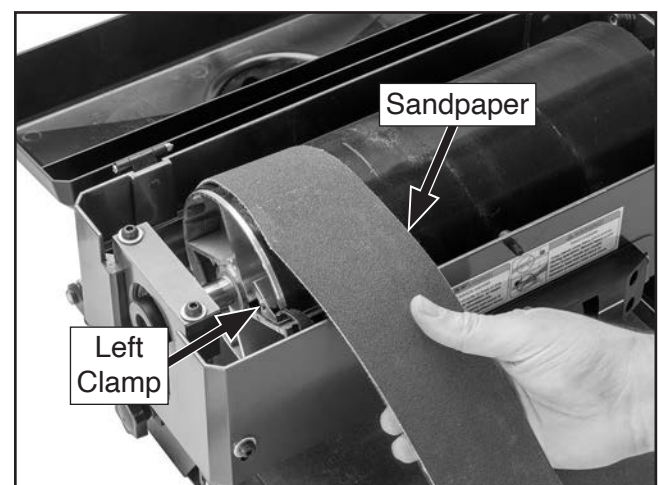

Figure 17. New sandpaper clamped to drum on left side.
7. Insert corner of new sandpaper in slot at left side of drum and clamp with left clamp, as shown in **Figure 17**.